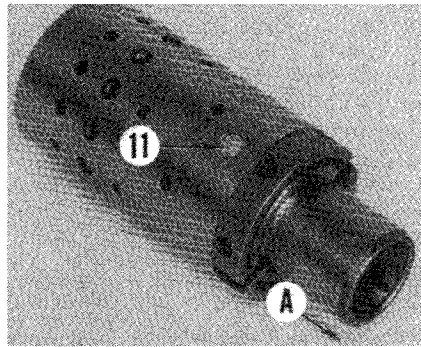
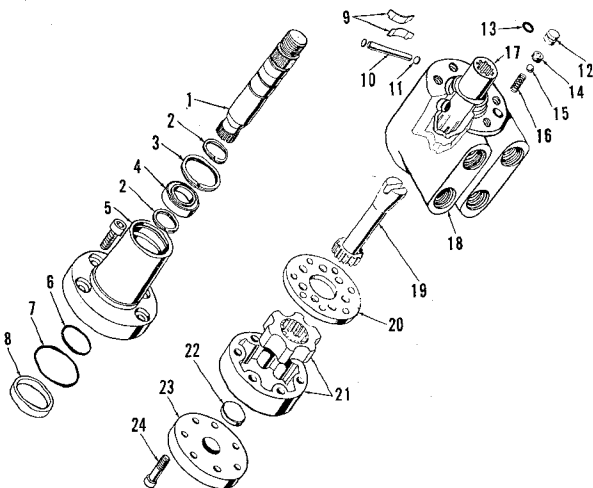
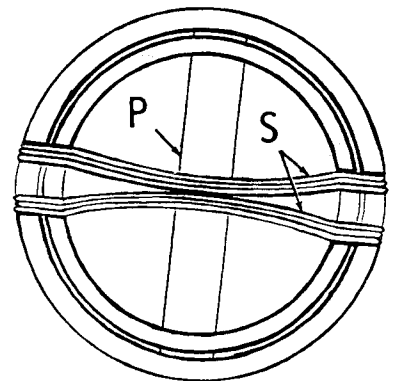
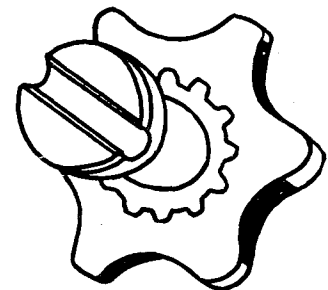

Fig. 25—View of control spool and sleeve assembly. Teflon discs (11) cover outer ends of internal pin. Withdraw spool from sleeve in direction of arrow (A).
Fig. 24—Exploded view of Char-Lynn Orbitrol hydrostatic steering hand pump used on MF235 and MF245 Orchard models.
Fig. 25A—Schematic end view of steering control sleeve and spool showing correct assembly of centering springs (S) and drive pin (P).
Fig. 26—When properly assembled, slot in end of drive link must align with valley of inner gear as shown to provide correct valve timing.
spool (17—Fig. 24) and housing (18) are available as a matched set only.
To disassemble the removed unit, first remove cap screws (24) and withdraw end plate (23), gear set (21), spacer (20) and drive link (19) as a unit. Unbolt and remove upper housing (5) and input shaft (1) as a unit. Withdraw the control spool and sleeve (17) as a unit from bottom end of housing. Remove Teflon discs (11), then push pin (10) and centering springs (9) out of sleeve. Carefully slide spool (splined end first) from sleeve (Fig. 25). Insert a bent wire through port in valve body and push plug (12—Fig. 24) from body, then remove check valve seat (14) using an Allen wrench. Remove check ball (15) and spring (16).
When assembling the unit, tighten check valve seat (14) to a torque of 17 N·m (150 in.-lbs.). Assemble spool in sleeve making sure spool rotates smoothly in sleeve. Align spring slots in spool and sleeve, then insert centering springs (two sets of three each) so arched center sections are together as shown in Fig. 25A. Insert pin (10—Fig. 24) into spool and sleeve assembly and install a Teflon disc (11) at each end of pin.
Be sure pin slot in drive shaft (Fig. 26) is aligned with a valley of inner rotor to ensure correct timing of control sleeve. If drive slot is improperly aligned, steering unit will operate in reverse or "kick back" when hydraulic pressure is applied. Assemble drive link (19—Fig. 24), spacer (20), gear set (21) and spacer (22) onto valve body. Note that spacer (22) should be flush with outer surface of gears if drive link is properly engaged with control spool pin. Install end cover (23) and tighten retaining cap screws evenly to 17 N·m (150 in.-lbs.) torque.